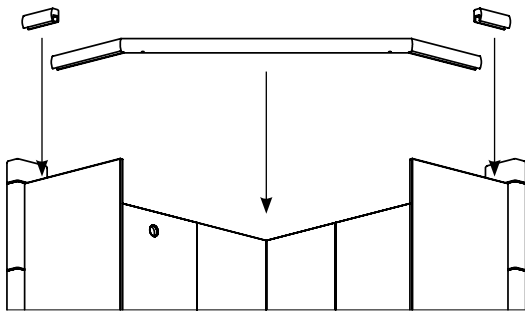
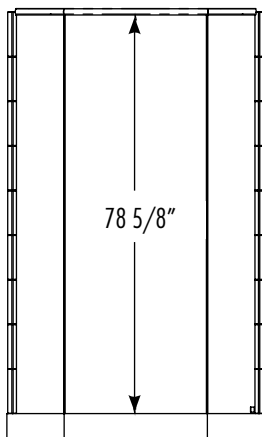

figure 34
figure 35
6. Set the header center section onto the glass panels (fig. 34). Measure from the top of the shower pan threshold to the bottom of the header assembly. It should be $78 \frac{5}{8}$ ". Make any necessary adjustments to the glass panels (fig. 35).
8. Dry fit the header side pieces and make sure the ends meet with the wall thresholds and the glass panels fit in the channels correctly (fig. 34). Depending on how square your walls are, you may need to sand the edges of the side pieces to make them fit properly.